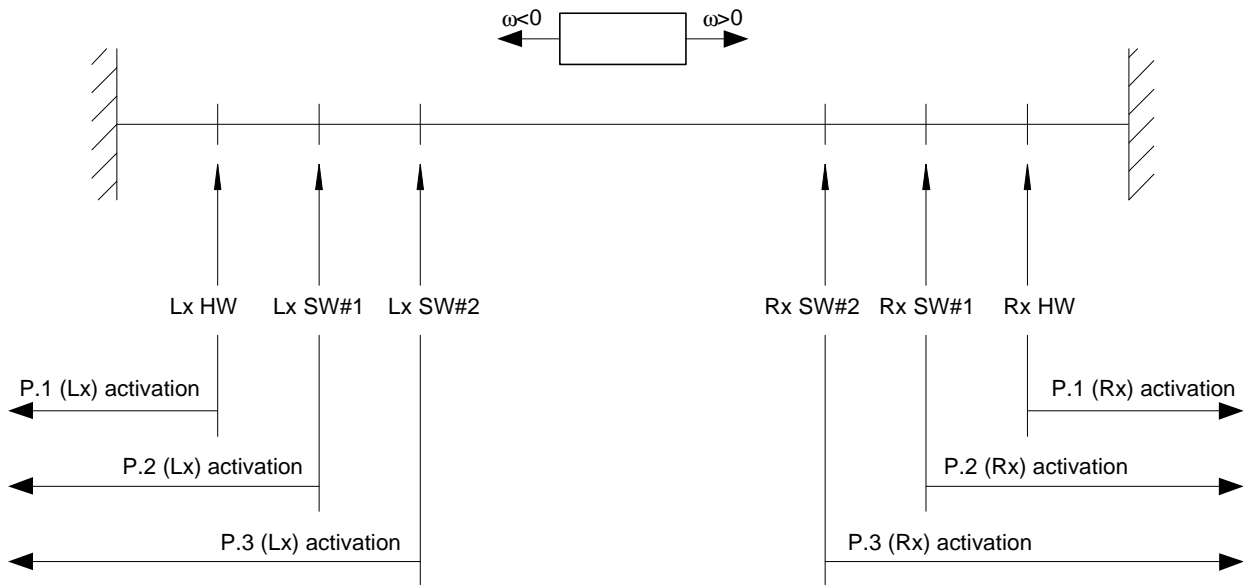

Fig. 5-1: Limit switch arrangement
It is not allowed to cross LimSWs, that is to say all Right LimSWs must remain to the right of all Left LimSWs. Fig. 5-1 shows schematically the arrangement of LimSWs (Lx = Left and Rx = Right) and the alarms that are activated when going out from the allowed space.
- enable Software (SW) limit switches by Par.01 and 02, *Enable Software Limit Switch #1/#2* = “Enable” for #1/#2 level, both in system table #1;
- define Software (SW) limit switch values, right and left, for #1 and #2 levels, by parameters Par.03, 04, 05 and 06, *Right/Left Software Limit Switch #1/#2*, in [turns]; when getting out of the space limited by these values, the alarms P.2 “SW Limit Switch #1” (for level #1) and P.3, “SW Limit Switch #2” (for level #2) are respectively activated (see Fig. 5-1).